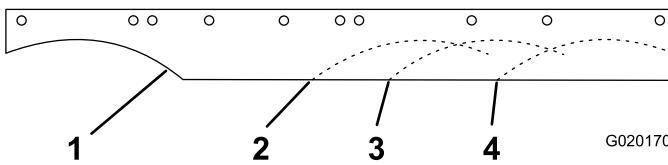

Figure 2
2. Locate the cutting arc that corresponds to your deck size. **Select one baffle only** and trim it along the shape of the corresponding arc (Figure 2).